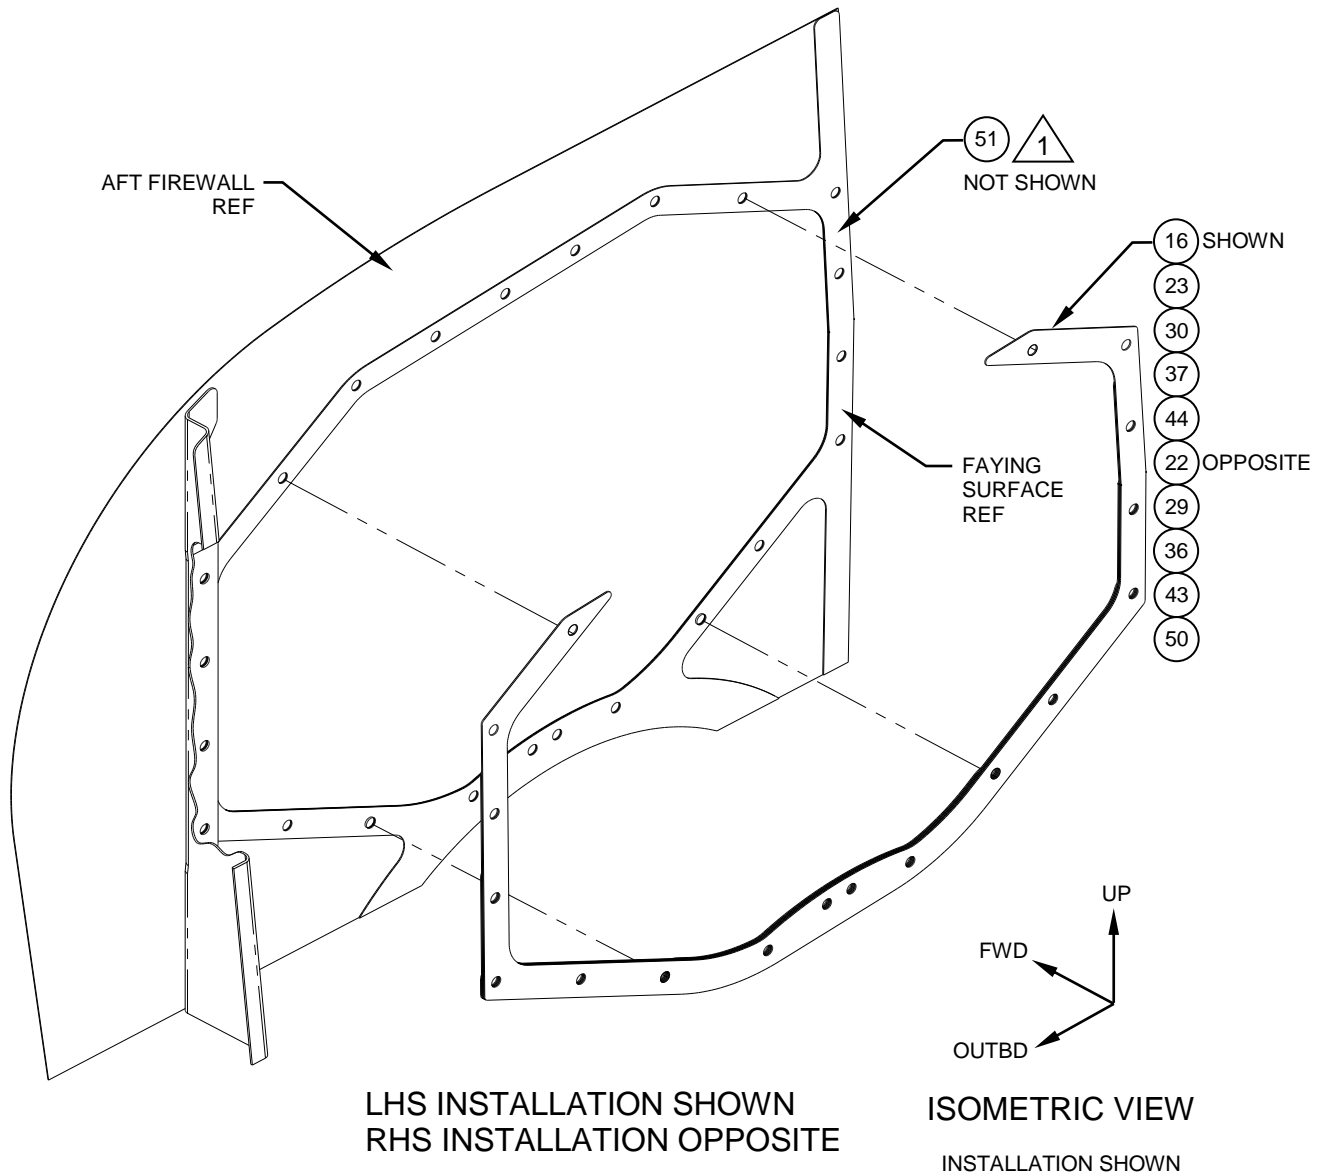

Figure 3
5. Prepare the LHS and RHS of the AFT Firewall by removing any residual gasket material, dirt, etc. and wipe the faying surfaces clean with MEK. Reference Figure 3.
6. Temporarily install the Shim, Assy, LHS (Item 16, 23, 30, 37, or 44 as determined by appendix A) on the LHS of the AFT Firewall with the faying surface (stepped surface) facing FWD. Reference Figure 3.
7. Ensure that all holes and features of the Shim, Assy, LHS (Item 16, 23, 30, 37, or 44 as determined by appendix A) are in alignment with the LHS of the AFT Firewall. Mark the perimeter of the Shim, Assy on the AFT Firewall and remove the Shim, Assy. Reference Figures 3 & 4.
8. Temporarily install the Shim, Assy, RHS (Item 22, 29, 36, 43, or 50 as determined by appendix A) on the RHS of the AFT Firewall with the faying surface (stepped surface) facing FWD. Reference Figure 3.
9. Ensure that all holes and features of the Shim, Assy, RHS (Item 22, 29, 36, 43, or 50 as determined by appendix A) are in alignment with the RHS of the AFT Firewall. Mark the perimeter of the Shim, Assy on the AFT Firewall and remove the Shim, Assy. Reference Figures 3 & 4.
11. Install the Shim, Assy, LHS (Item 16, 23, 30, 37, or 44 as determined by appendix A) on the LHS of the AFT Firewall as shown. Reference Figures 3 & 4.
13. Install the Shim, Assy, RHS (Item 22, 29, 36, 43, or 50 as determined by appendix A) on the RHS of the AFT Firewall as shown. Reference Figures 3 & 4.